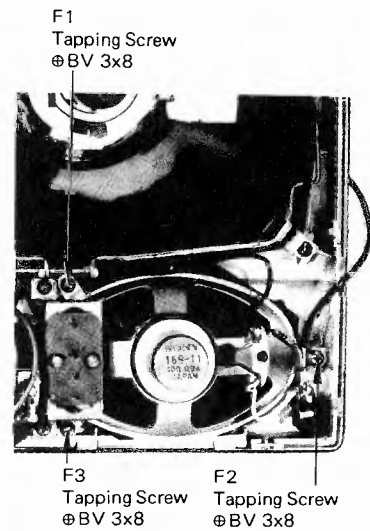

Fig. 13 Speaker Removal
4. Remove the three screws labeled F1-3 in Fig. 13.